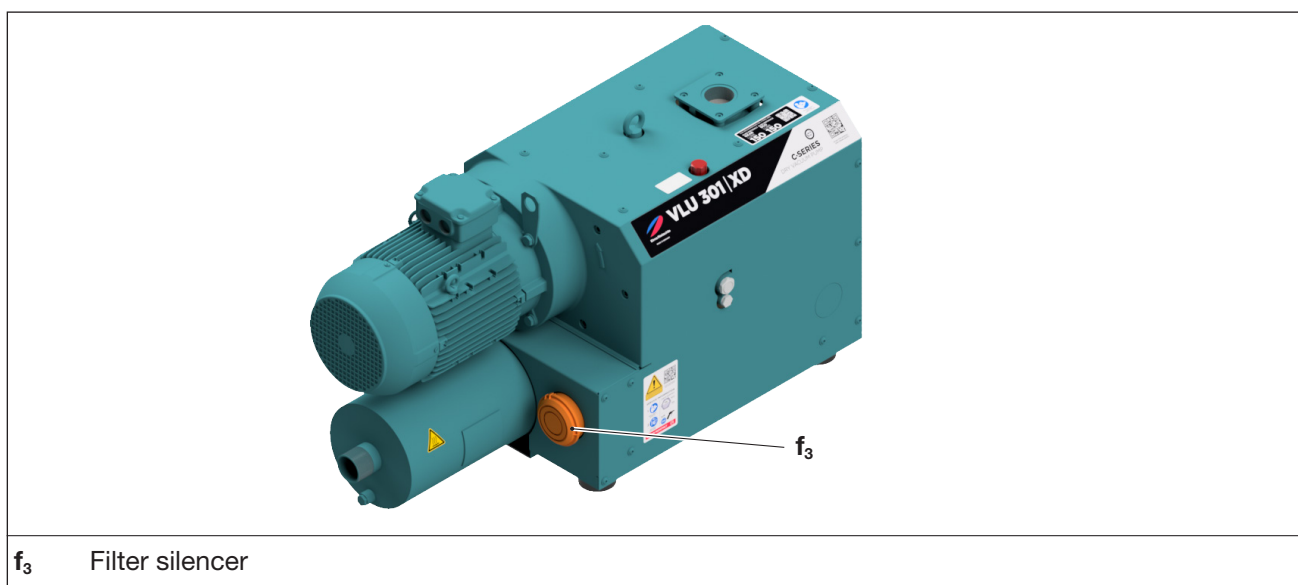

Fig. 7 Filter silencer
- Take off the cover of the filter silencer (Fig. 7/f3).